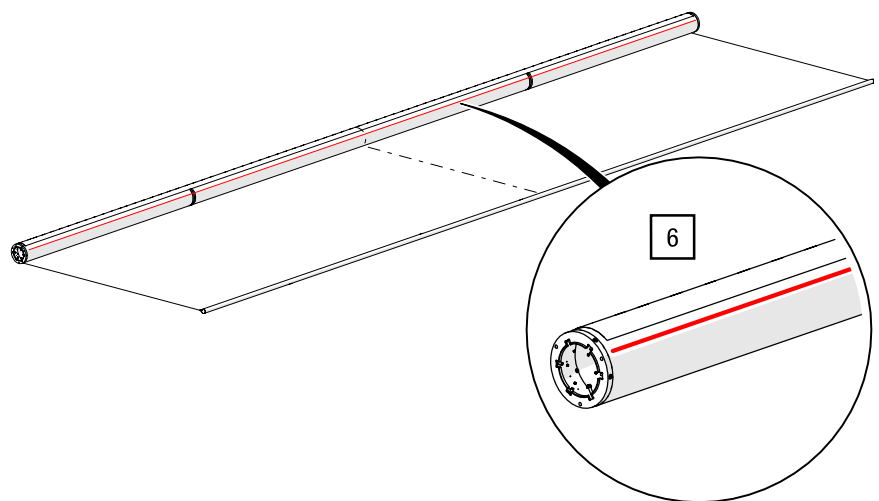

Fig. 25: Fitting the screen fabric –marking parallel to the axis using a chalk line
6. Mark the CFRP-tube using a chalk line parallel to the axis and position it 0.5 m from the top edge of the screen fabric (see Fig. 25).